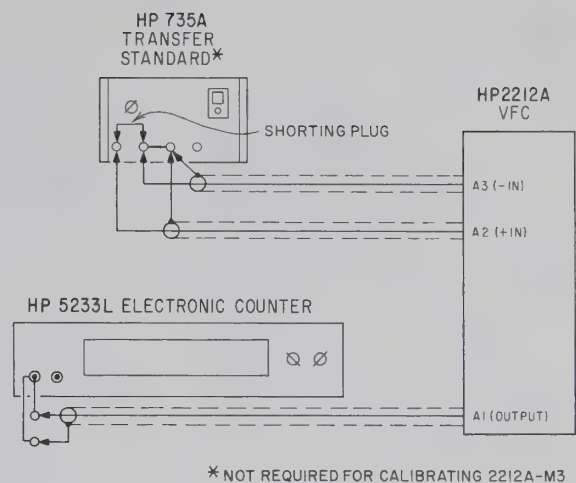

Figure 2-11A. 1V Range Calibration Setup
2. Connect setup shown in Figure 2-11A, including the shorting plug between the Transfer Standard '+' and '-' terminals. Turn on the 2212A and all equipment.